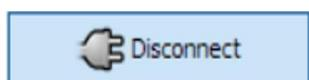
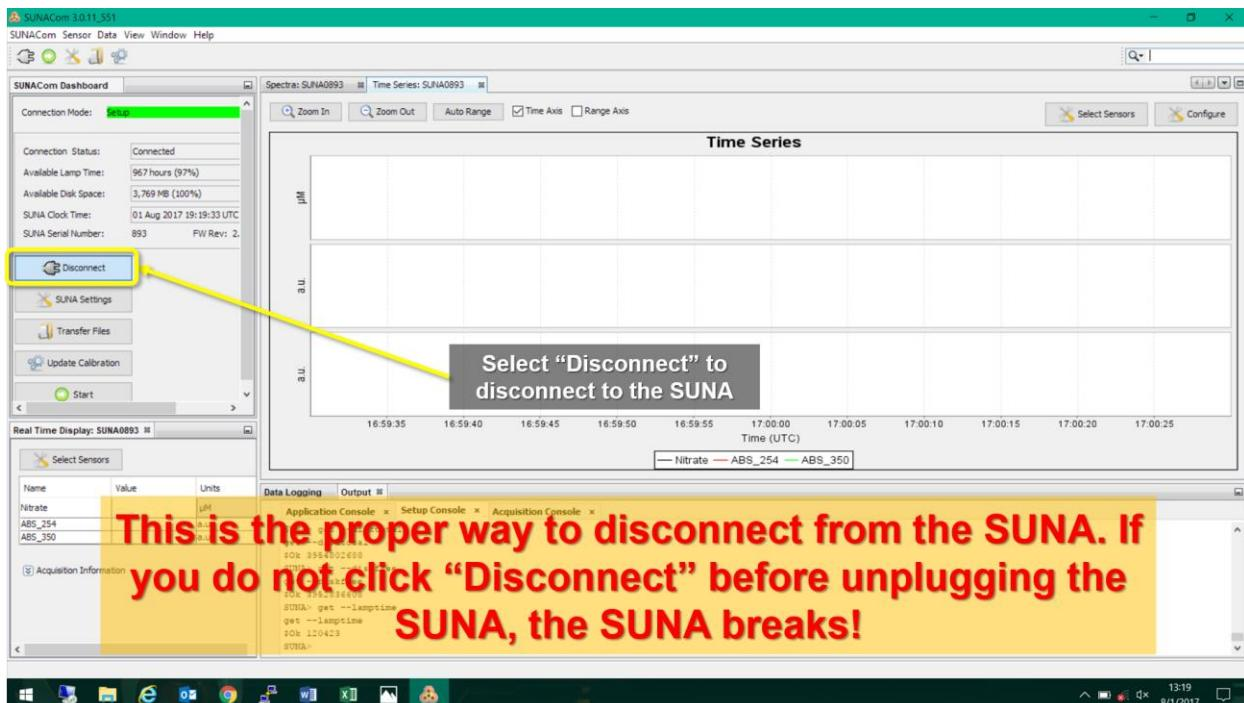

Figure 115. Click "Disconnect" Icon
Figure 116. Click "Disconnect" to Properly Disconnect from the SUNA
17. To disconnect from the SUNA instrument, click “**Disconnect**” under the **SUNACom Dashboard** section of the main program window (see Figure 115 and Figure 116).